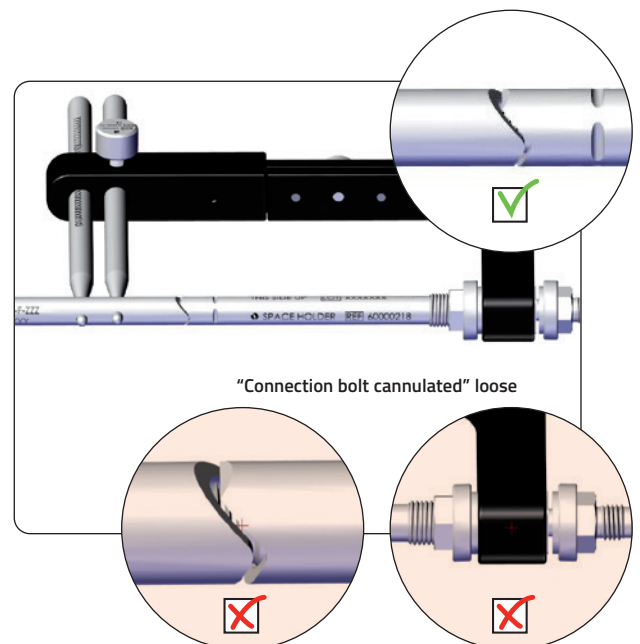

Fig. 45 Connection Bolt loose
4. The dummy/trial nail is loosely fixed to the "connection bolt". (Fig. 45)